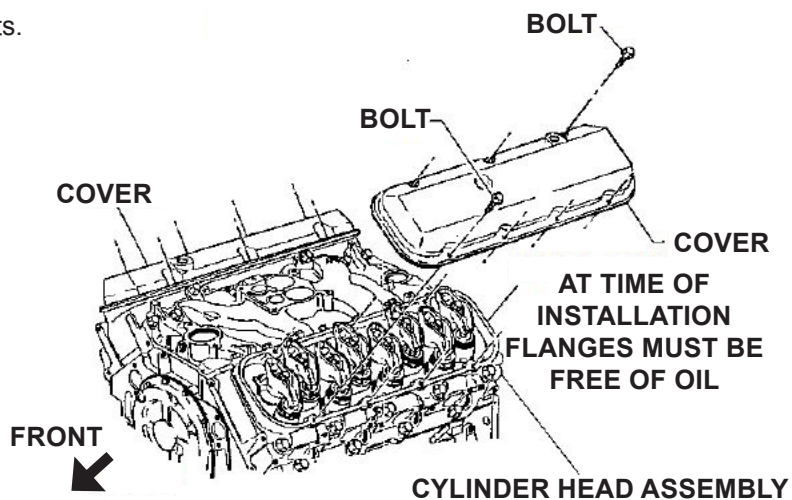

FIGURE 8
6. Torque the bolts to 70 in-lbs. See Figure 8